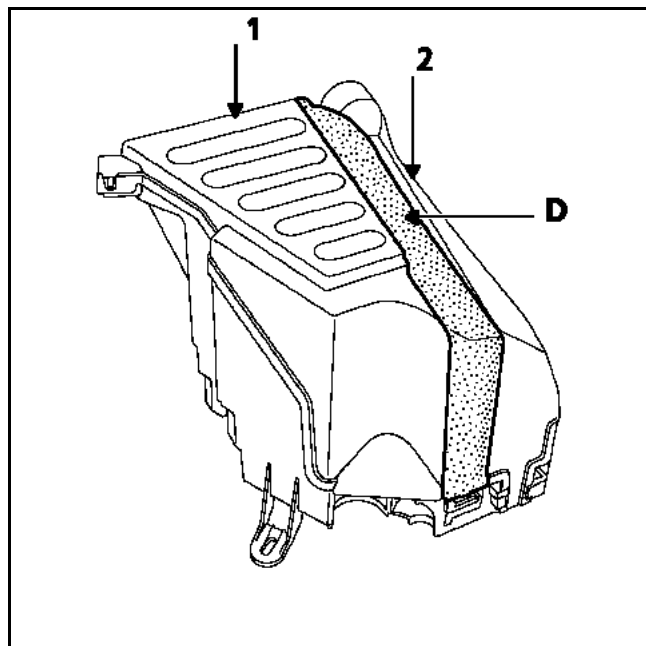

Fig. 2
- C - Cover closure areas (1) and (2) to be checked
- 3 Check the engine interconnection unit sealing ring. Affix a strip of adhesive tape, Part number: 77 01 051 685, (D) (Fig. 2) to the cover closure areas (1) and (2) (Fig. 2).